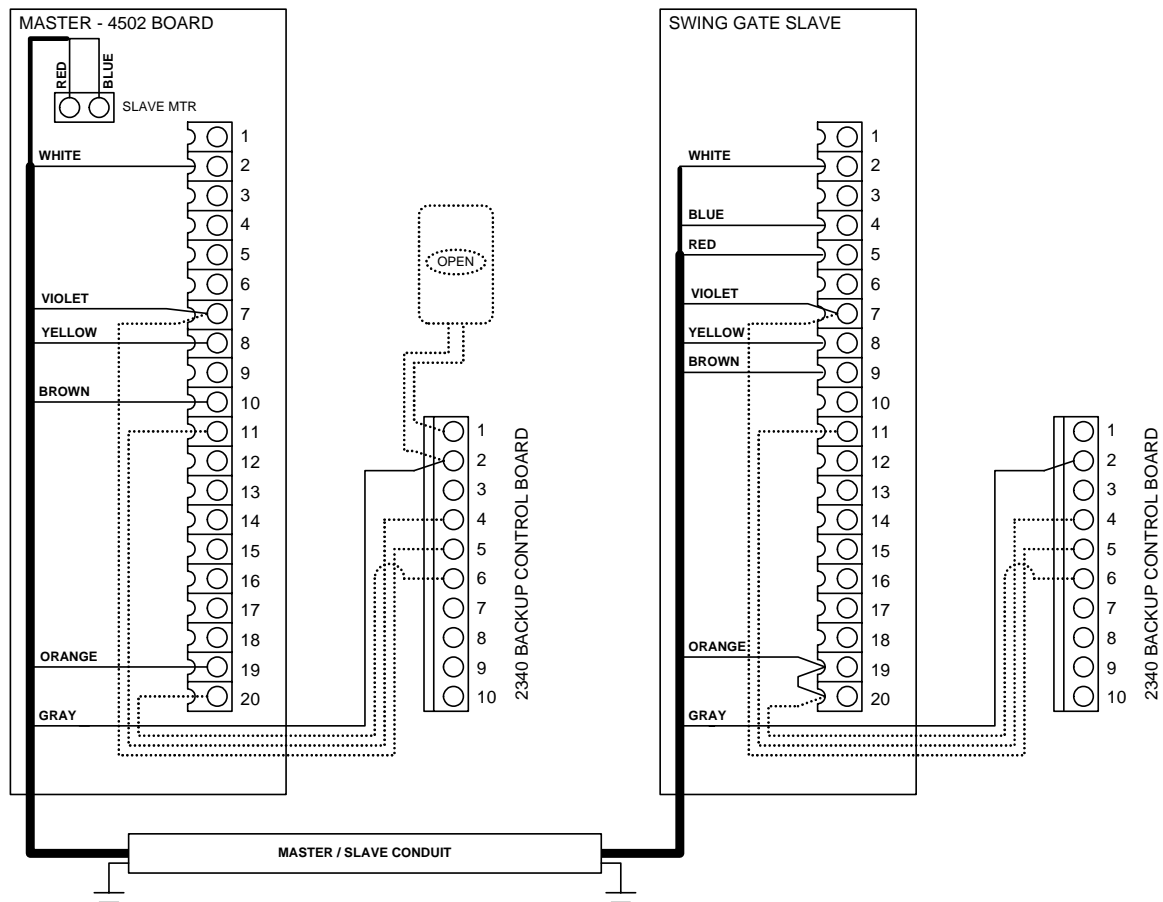

Figure 2
- Wire swing gate master / slave operators as shown in Figure 2. Color code shown assumes the use of DoorKing master / slave cable. Order part number 2600-755 (30 ft.), 2600-756 (40 ft.), 2600-757 (50 ft.).